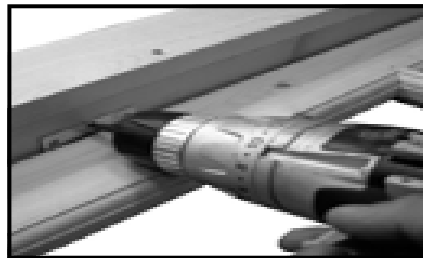

Fig A14
23. Secure the window to the panel using 3x 25mm screws per hinge, (fig. A14 ) again through the predrilled holes in the hinge.